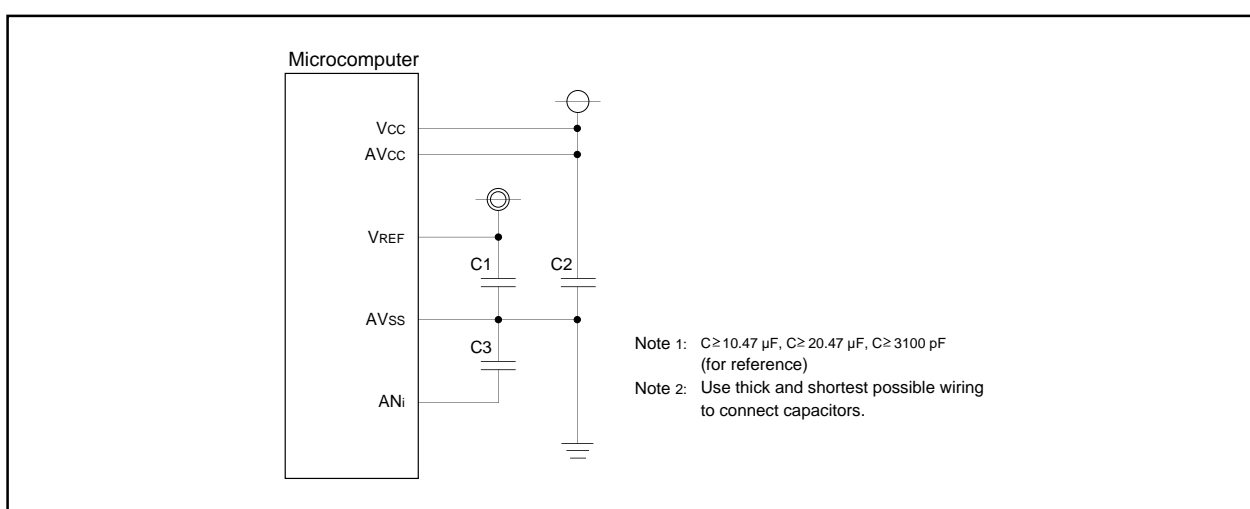

Figure 2.7.16. Use of capacitors to reduce noise
- (2) To reduce conversion error due to noise, connect a voltage to the AVcc pin and to the Vref pin from an independent source. It is recommended to connect a capacitor between the AVss pin and the AVcc pin, between the AVss pin and the Vref pin, and between the AVss pin and the analog input pin (ANi/AN5i). Figure 2.7.16 shows the an example of connecting the capacitors to these pins.